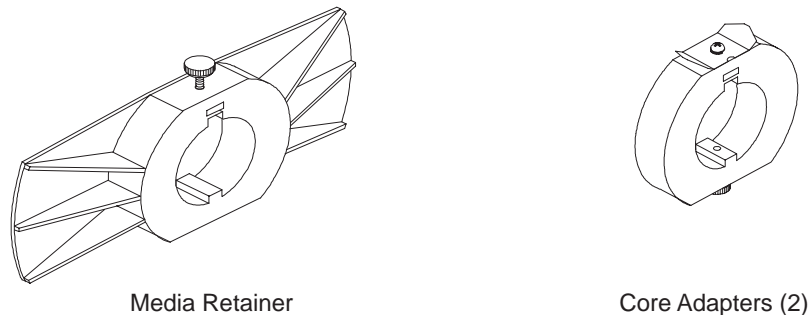

Figure 2–3. Media Rewinder Accessories
- Printer media retainer and two core adapters, if optional media rewinder is present (shown in Figure 2–3)
To prepare the printer for operation, complete the procedures in the following sections. (Figure 2–4 shows the overall view and the rear view of the printer.)